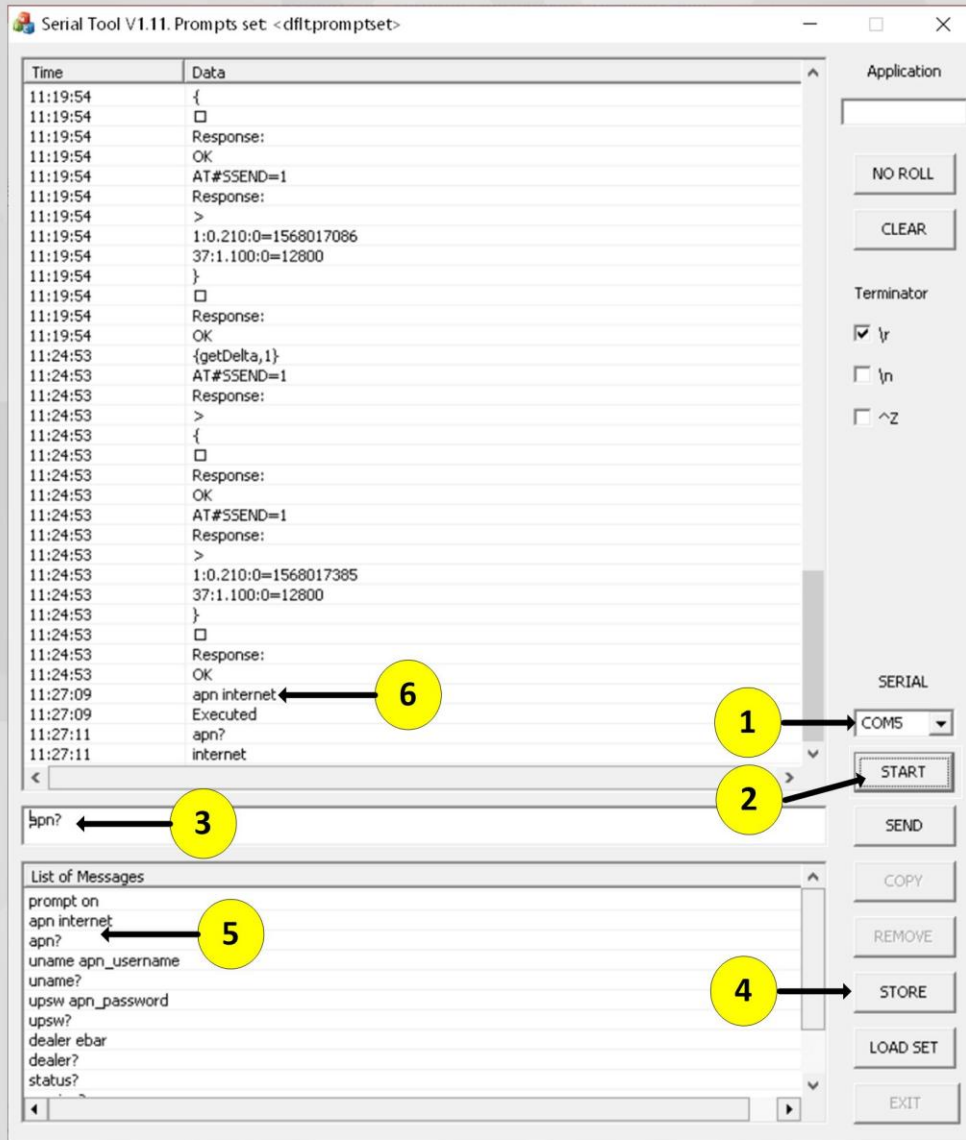

Figure 1- Serial Tool Software description.
5. Select the appropriate communication port on the **Com** combo box (Pointer 1 figure 1). In order to find the **Com port**, go to **My PC** and press the right mouse button. Select **Properties->Device manager->Ports (Com & LPT)**.
6. Click the **START** button (2).
7. To add a command to the **Command list**, write the new command in the **Command text box** (3). Press the **STORE** (4) button to add the new command to the **Command list** (5).
8. To send a command to the **Sapir 2** controller, stand on the preferred command on the **Commands list** (5) and double click on it.
9. The sent command and the **Sapir 2** response will appear on the Logging window (6).